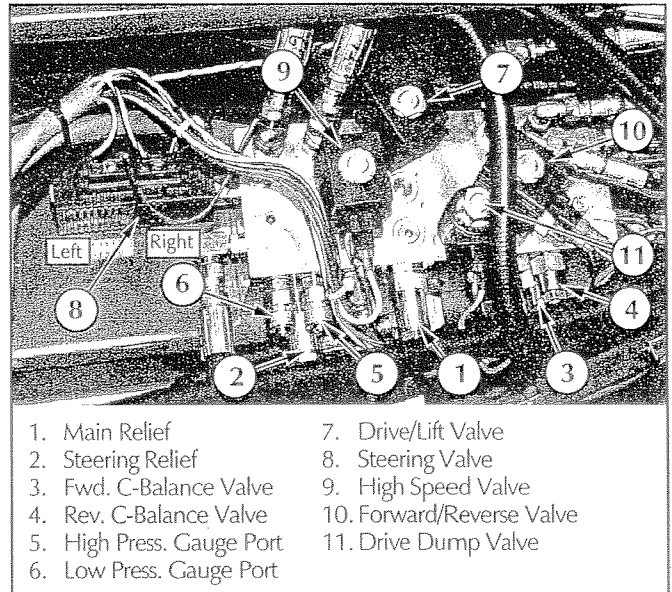

Figure 4-4: Hydraulic Manifold
4.5 Setting Hydraulic Pressures (Figure 4-4)
MAIN RELIEF VALVE (Figure 4-4)
(Figure 4-4)